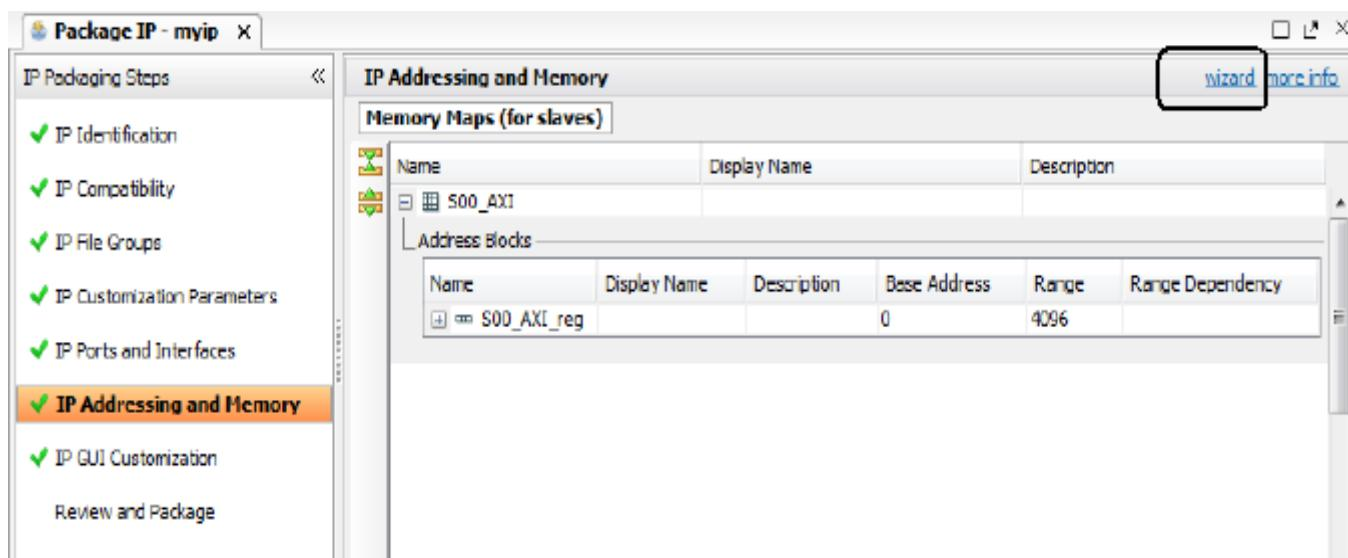

Figure 8-75: IP Addressing and Memory
The IP Addressing and Memory section, (Figure 8-75), lets you add a memory-map or address space to the IP.
1. Open the IP Addressing and Memory wizard by clicking the wizard hyperlink, circled in Figure 8-75.